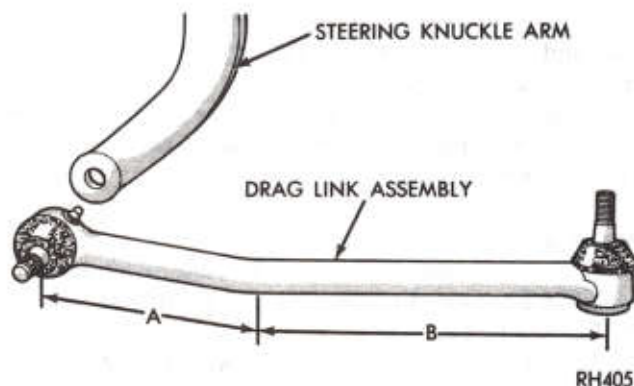

Fig. 17—Proper Installation of Drag Link Assembly
(1) Position drag link to steering knuckle arm (Fig. 17) so that from production bend in arm to steering knuckle arm is the short distance marked as "A" in Figure 17 and long distance from bend marked "B" in Figure 17 is to be installed to steering gear arm.
(2) Install and tighten nuts to 60 ft. lbs. (81 N·m). Install cotter keys.
(3) Lubricate at fittings. Remove jack stands and lower vehicle.